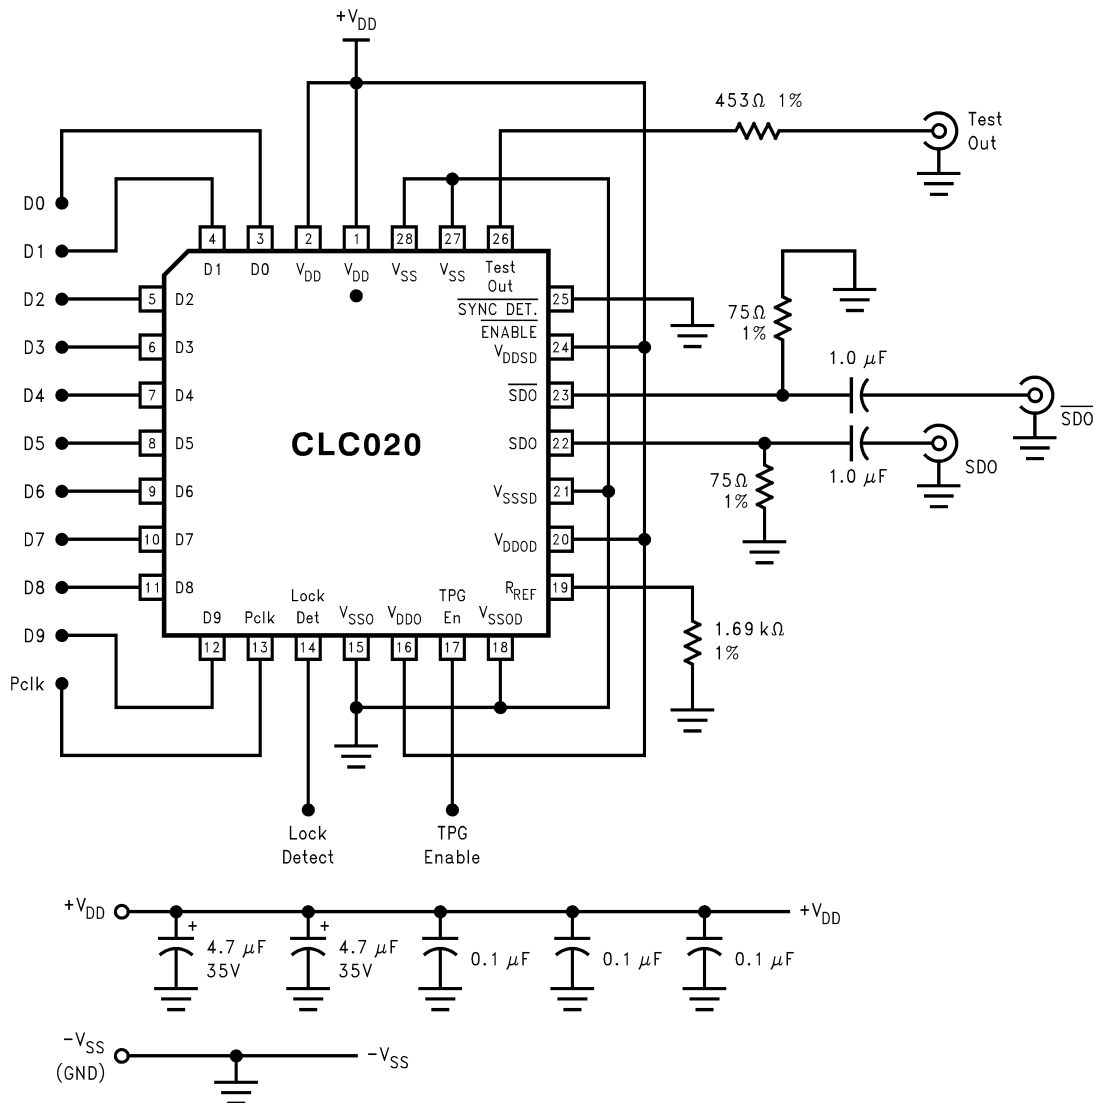

Figure 3. Test Circuit
(1) Typical values are stated for VDD = +5.0V and TA = +25°C.
(2) RL = 75Ω, AC-coupled @ 270 Mbps, RREF = 1.69 kΩ 1%, See TEST LOADS and Figure 3.
(3) CLC020 mounted in the SD020EVB board, configured in BIST mode (NTSC color bars) with PCLK = 27MHz derived from Tektronix TG2000 black-burst reference. Timing jitter measured with Tektronix VM700T using jitter measurement FFT mode, frame rate, 1kHz filter bandwidth, Hanning window.
(4) Specification is ensured by design.
(5) Measured from rising-edge of first PCLK cycle until Lock Detect output goes high (true).